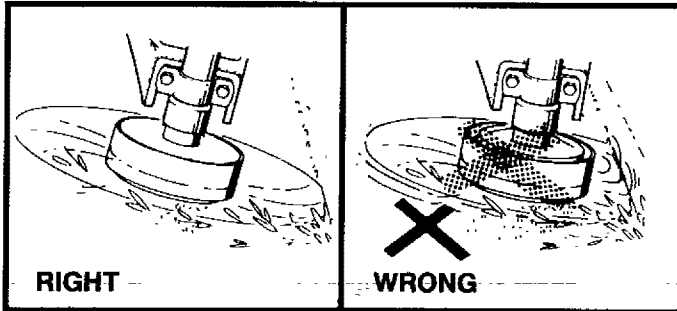

Figure 13
- The tip of the line does the cutting. Allow the unit to trim at its own pace. You will achieve better results by not crowding the line into the cutting area. The right way and wrong way are shown in Figure 13.